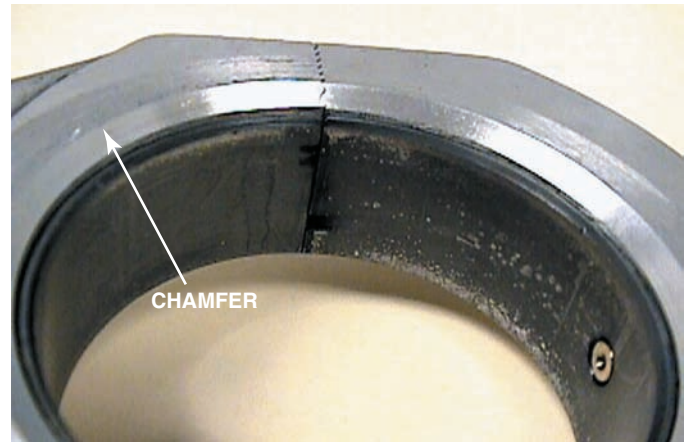

FIGURE 34-30 On V-type engines that use paired rod journals, the side of the rod with the large chamfer should face toward the crank throw (outward).
- On V-type engines, the connecting rod cylinder identification marks are on the side of the rods that can be seen from the bottom of the engine when the piston and rod assemblies are installed in the engine. Make sure the connecting rod has been installed on the piston correctly—the chamfer on the side of the big end should face outward (toward the crank throw). ● **SEE FIGURE 34-30.**